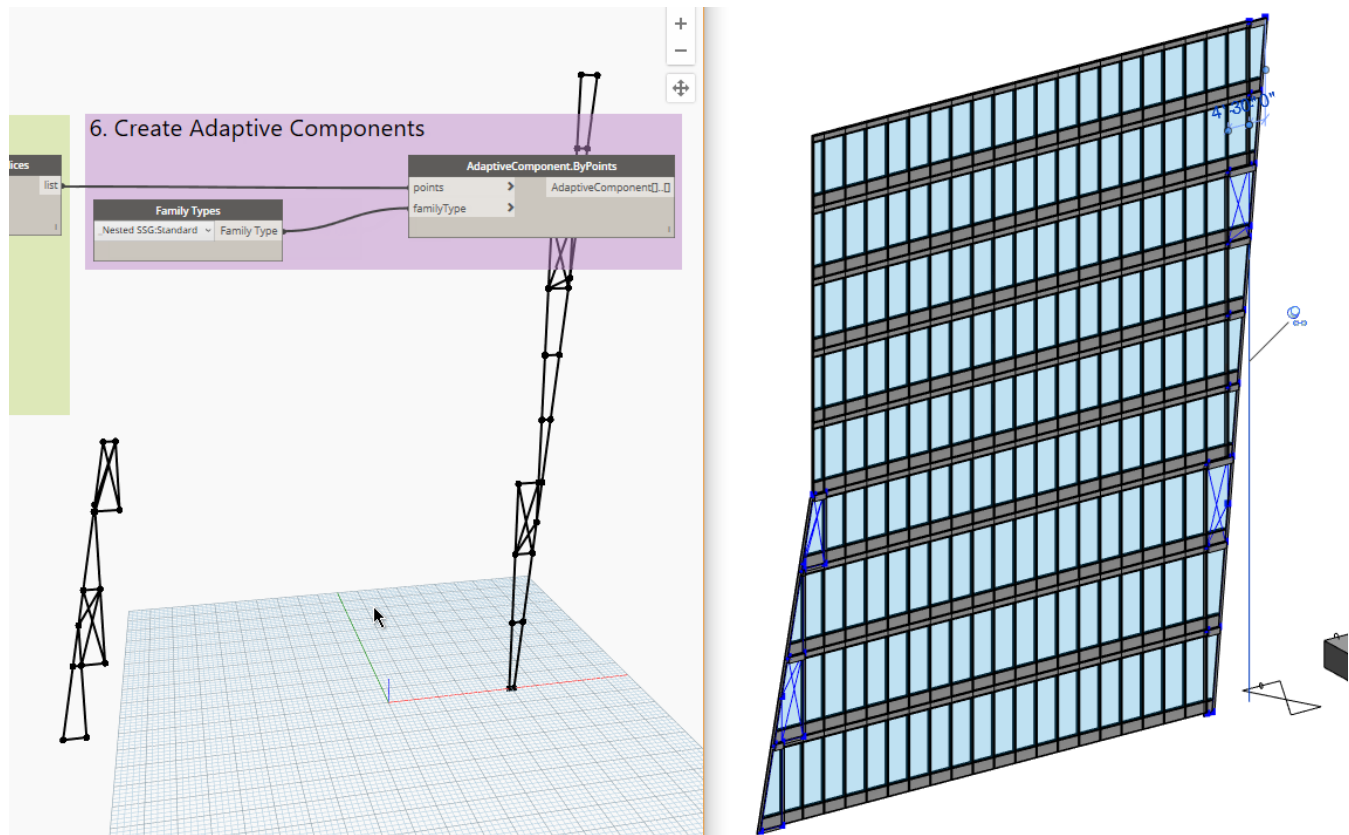

Figure 108
60. Turn on Use Levels for the element input as well. Change it to: @L1 and then run the graph again (see Figure 108).
69. Run the graph (see Figure 108).